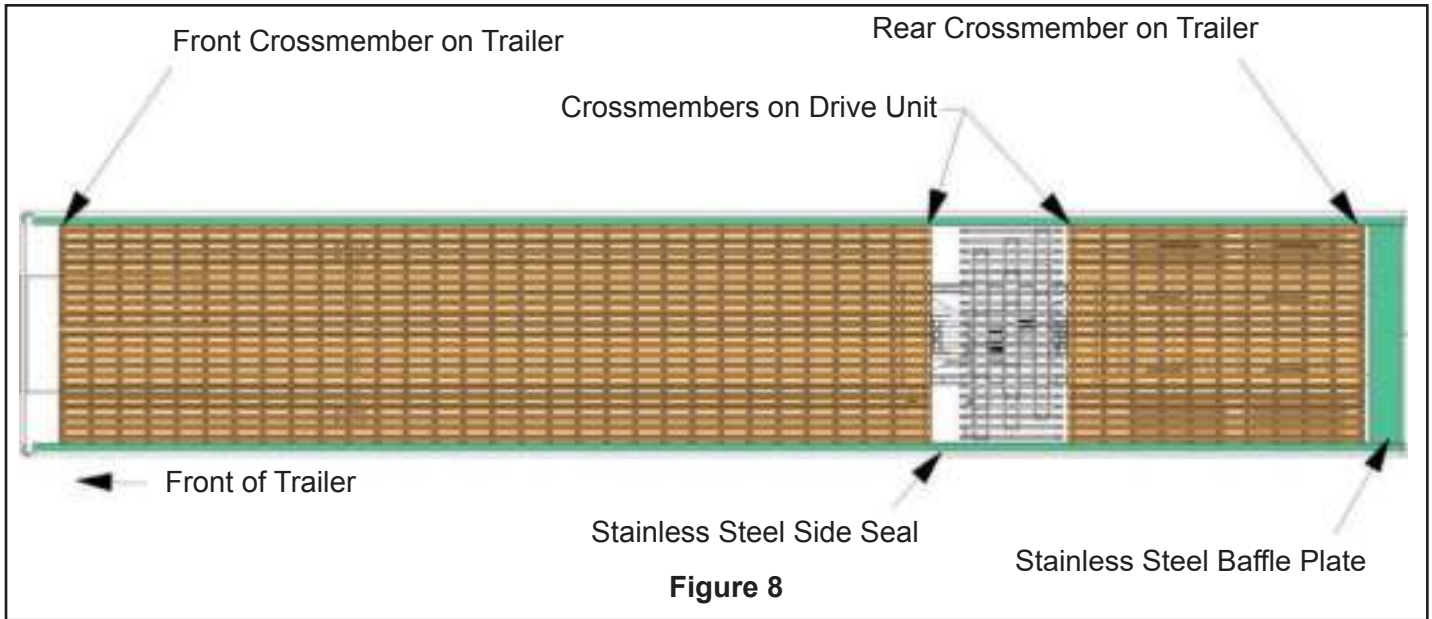

Figure 8
1. Cut sub-decks to proper length according to your trailer measurements and the position of the drive assembly. (See Figure 8)